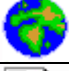

Figure 5
1. Press the MENU-button to activate the OSD main menu (Figure 5).